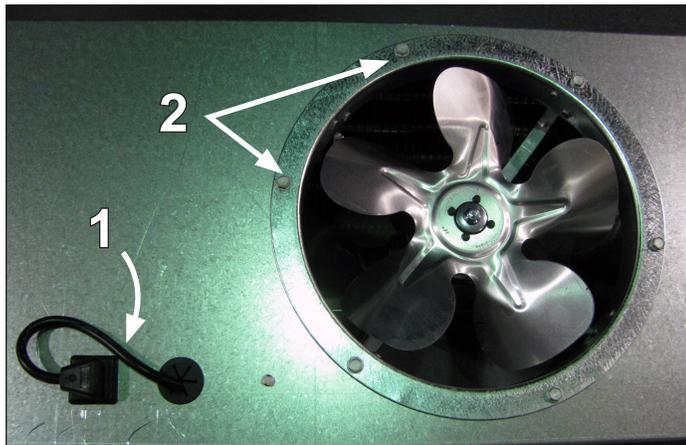

Fig. 24 Fan basket
1. Unplug the fan motor (Fig. 24), easily accessible outside the plenum. Be certain to push the power cord back through the plenum opening to avoid damage to the power cord.